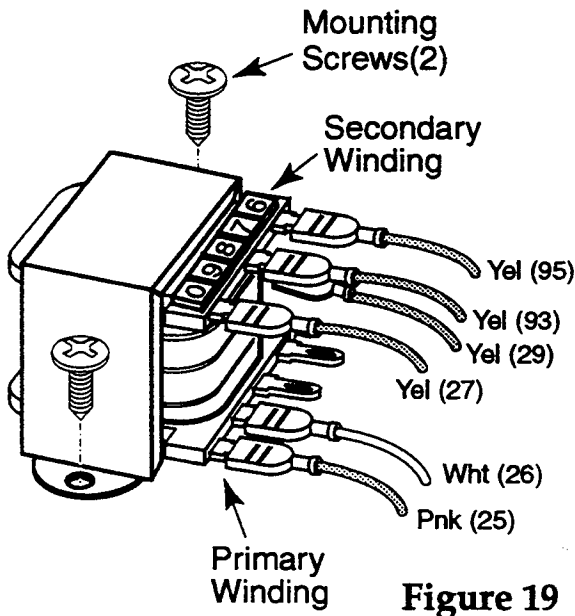

Figure 19
5. To remove the lamp transformer (see Figure 19):